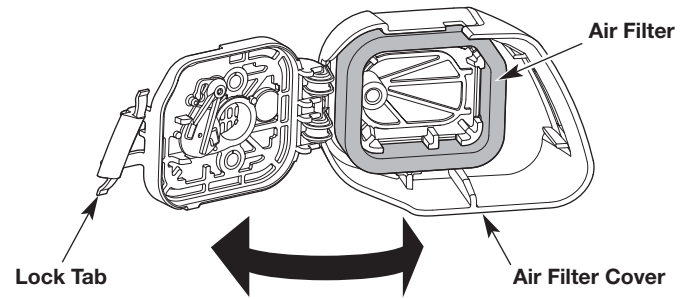

Fig. 22
1. Open the air filter cover: press in the lock tab and swing the air filter cover to the right (Fig. 22).
2. Remove the air filter from inside the air filter cover (Fig. 22).
6. Reinstall the air filter inside the air filter cover (Fig. 22).
7. Close the air filter cover: swing the air filter cover to the left and press it closed until the lock tab snaps into place (Fig. 22).